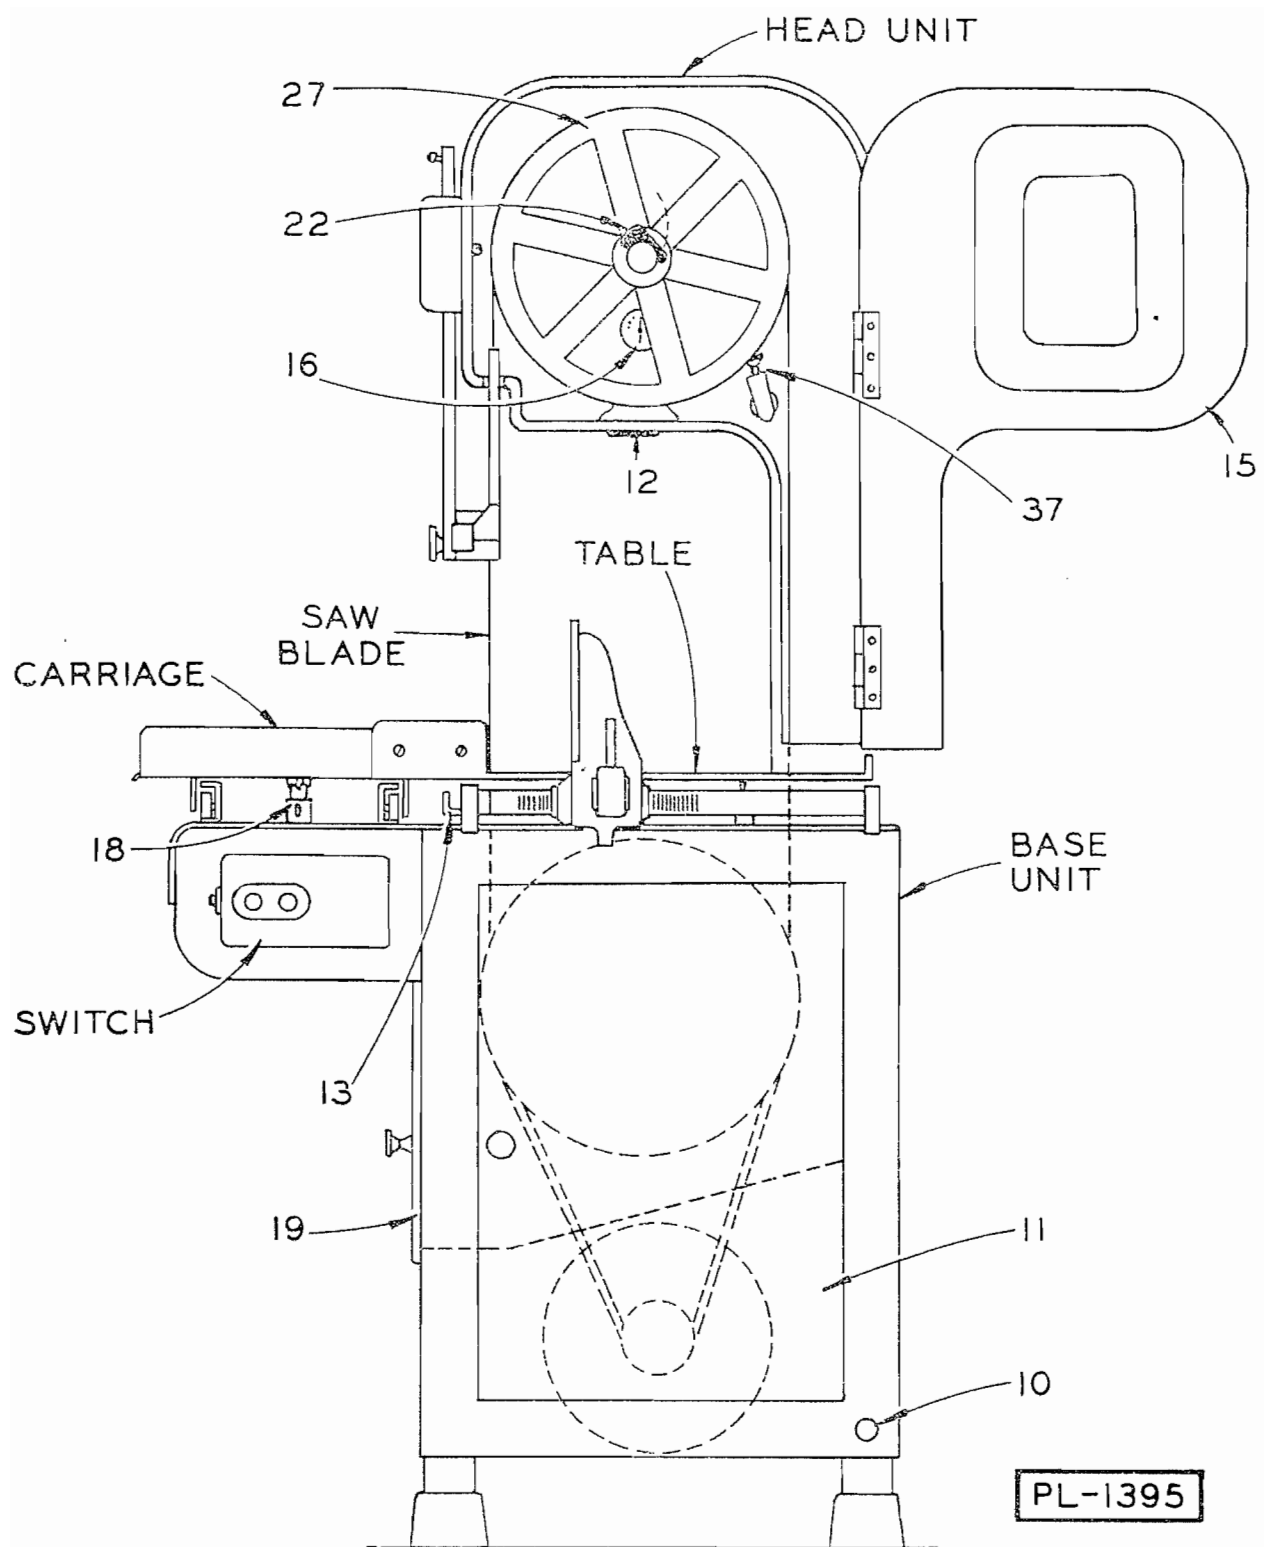

FIGURE 1
(2) Lower the upper blade pulley by giving the tension adjustment handle 12 (fig. 1) a few turns to the left, swing the guard 17 (fig. 3) down to a horizontal position, and put on a saw blade. The teeth must point to the right and downward when viewed from the front as shown in fig. 6. Turn the tension adjustment handle 12 (fig. 1) to the right until the indicator reads "2". Give the upper pulley 27 a few turns by hand so that the blade centers itself on the pulleys, then turn the tension adjustment handle slowly to the right until the indicator 16 registers between "3" and "4".
(5) Put on the table. Squeeze the latch K (fig. 5) and move the gage plate assembly back as far as it will go, then swing it up out of the way. Catches on the underside of the table will engage mating parts on the base, after which the table can be secured by moving the locking handle 13 (fig. 1) to the right. Be sure that the ribs on the table are inside the lugs on the base.
(6) Put on the carriage. While rolling it into place hold down the plunger 18 (fig. 1). When the plunger is released, stops on top of it will prevent the carriage from rolling off.
mended for the purpose and a hole 10 (fig. 1) is provided in the base for its entrance. The switch is of the pushbutton type and has thermal overload protection.
(1) Open the head door 15 (fig. 1) and clean out inside. Ordinarily this can be done
without taking off the blade pulley, but the pulley can be removed and should be taken off occasionally and washed. Always see that the bore of the pulley is dry before replacing and rub a little oil in it. Be sure that the latch 22, (fig. 1) which retains the pulley, is down properly in the groove on the shaft.
- (1) Take off the carriage. To release it, the plunger 18 (fig. 1) must be pushed down.
- (2) Unhook lock 13 and take off the table.
- (3) Open the head door 15 (fig. 1).
- (5) Turn the Hand Wheel 12 (fig. 1) to the left to loosen the tension and lift off the saw blade.
- (6) Put on the new blade, turn the hand wheel to the right until the indicator reads "2", turn the upper blade pulley 27 by hand to center the blade, and then turn the hand wheel until the indicator registers between "3" and "4". Now move the guard 17 to the vertical position and insert the lower wiper unit.